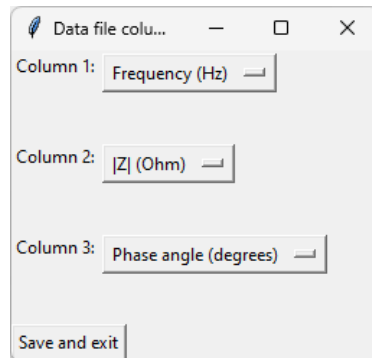

Figure 39: Modifying the data file layout specification.
- Click **File>Specify data file layout...** and select the settings indicated in Figure 39. Then, click **Save** and exit.